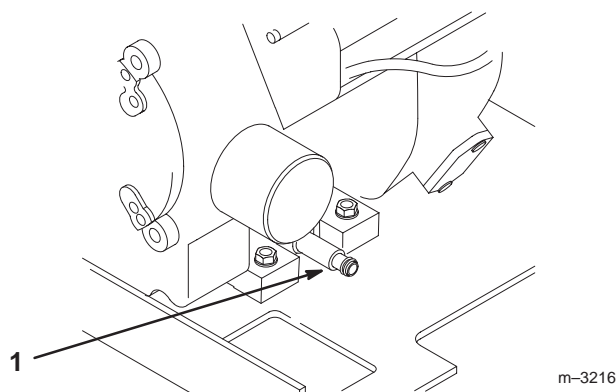

Figure 20
5. Open the drain valve by turning it counterclockwise, pulling out as you turn it (Fig. 20).